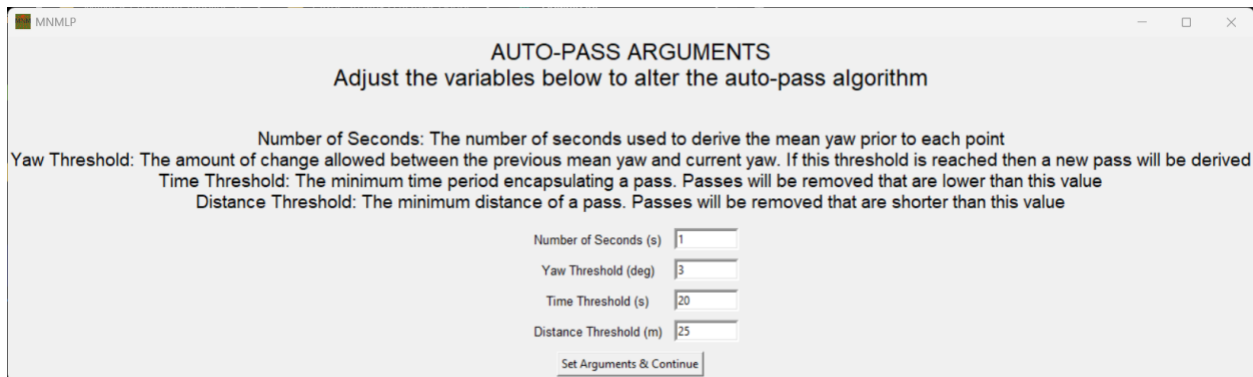

Figure 4b: Auto-pass window showing the different settings used to automatically derive passes
- The “Auto-Pass” button allows the user to automatically select passes based on different variables/settings. See Figure 4b.